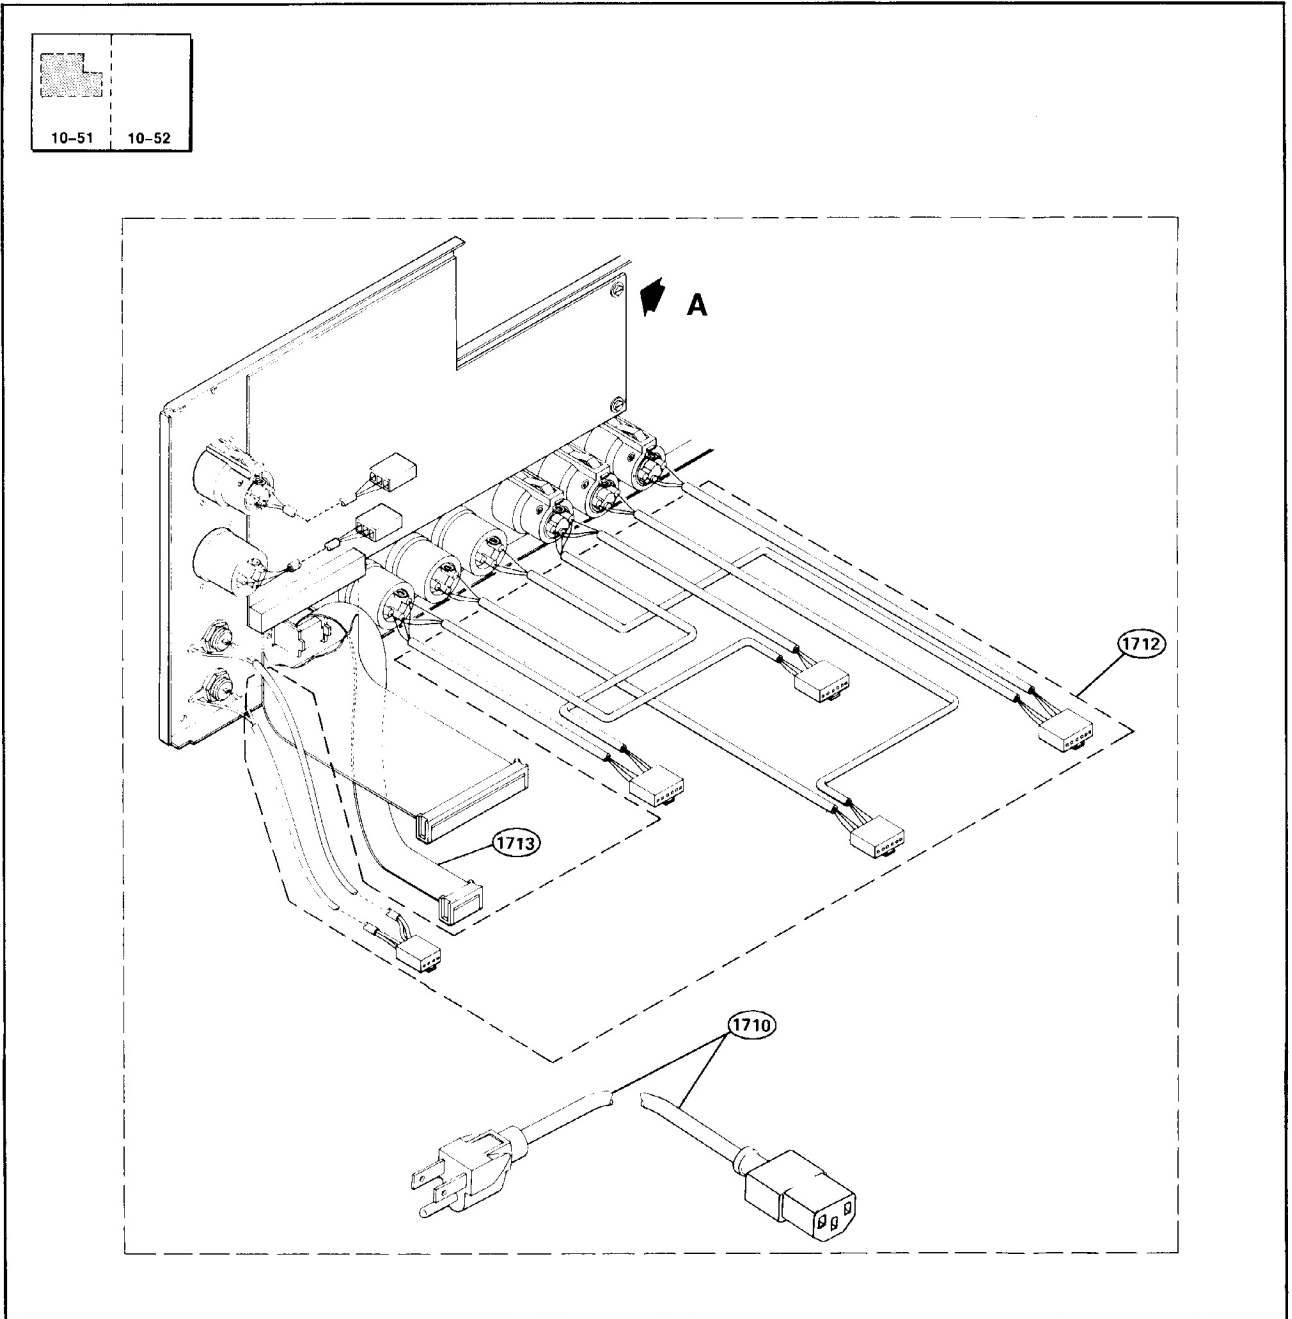

Figure 2
4. Remove CNX board by first removing screws (2) holding board in place (A). (See Figure 2.)